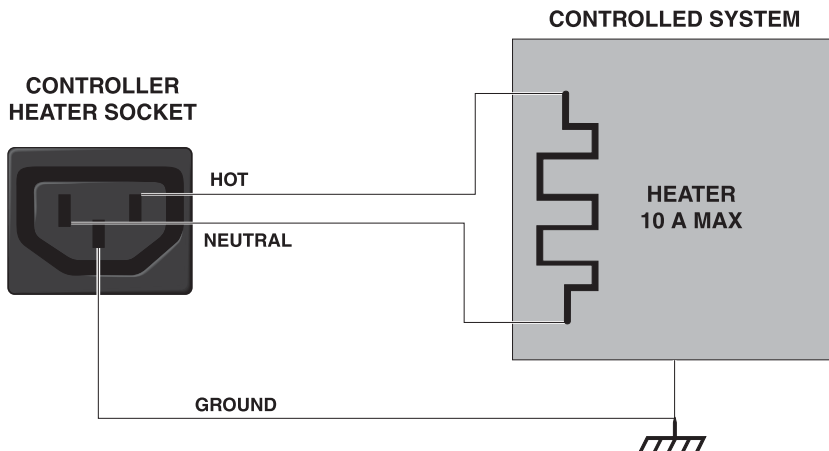
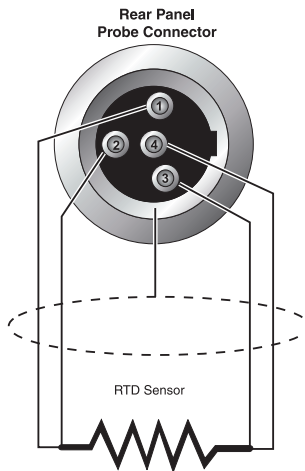

Figure 1 Controller to Heater Wiring
Figure 2 RTD Probe Wiring
Connect the heater to the back of the controller into the socket labeled "HEATER". Be sure the heater cable is adequate for the amount of current required and that the heater is wired correctly and safely. See Figure 1 for heater wiring. If applicable, connect the stirring device to the back of the controller in the socket labeled "STIRRER". The stirrer outlet wiring is the same as the heater outlet shown in Figure 1.
Connect the control probe into the socket at the back of the controller labeled “PROBE” (see Figure 2). Insert the probe into the bath or system to be controlled. For best stability and response time the control probe should be located in close proximity to the heater. Observe the maximum temperature rating of the probe and be careful it is not exceeded.
(2) The heater socket is the source of controlled power for the system heater. This power is switched by the solid-state relay to maintain a constant temperature. The voltage is the same as that supplied through the power cord (A). For a diagram of how to wire the heater to the controller see Figure 1 on page 13. An extra line cord has been included with the unit to make this connection.
(3) The stirrer socket is an auxiliary power socket for a stirring device for the bath. The voltage is the same as supplied through the mains supply to the power cord. An extra line cord is included with the unit to make this connection.
(4) The control probe is plugged in here. Normally the probe is a DIN 43760 type RTD. Optionally a thermistor probe with a much more limited temperature range but better stability is available. The controller must be internally configured to work with one type of probe or the other. Probes or additional connectors for use with the user's own probes are available from Hart. For assistance in wiring an RTD to the controller see Figure 2 on page 14. A probe connector has been provided.